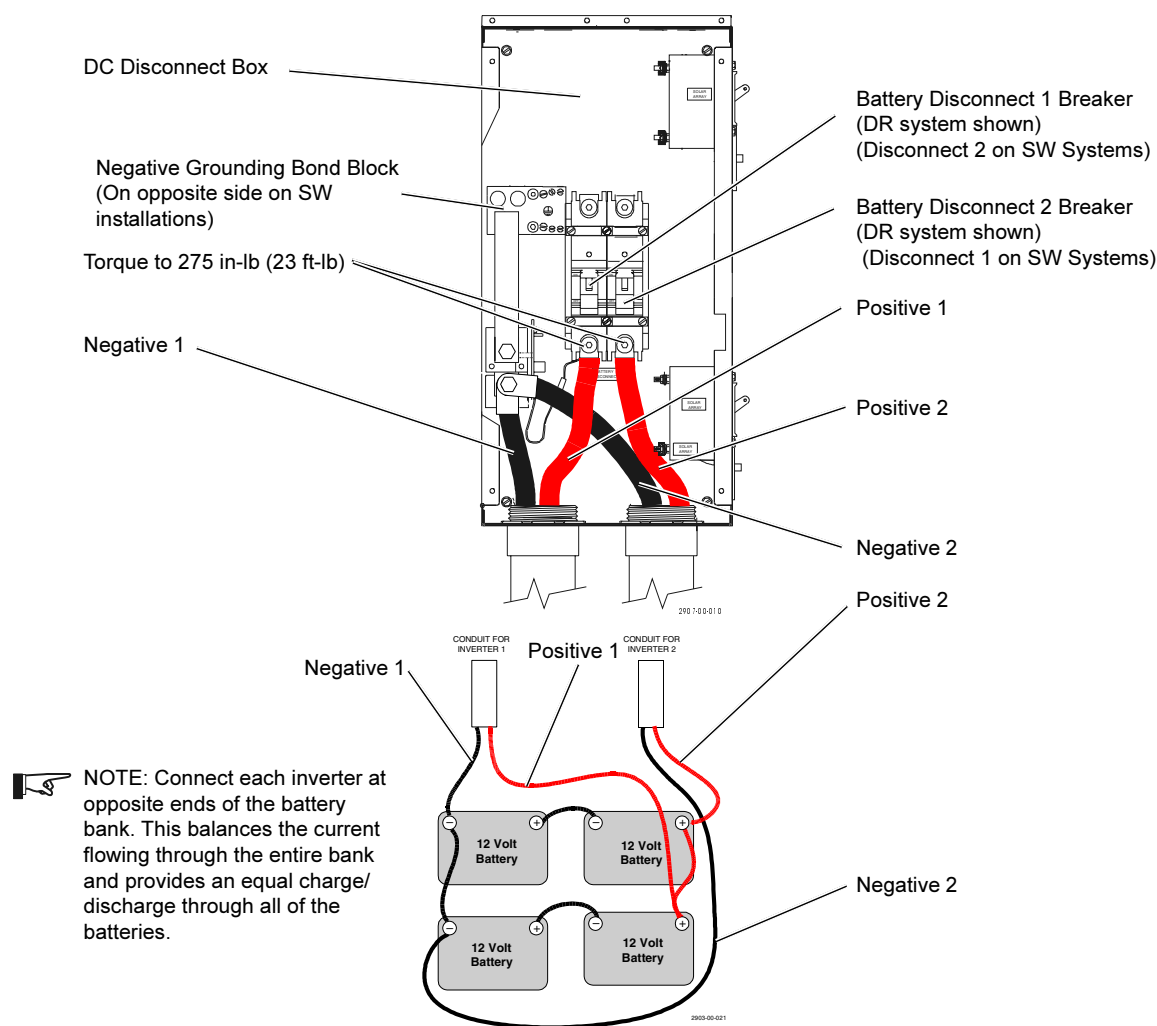

Figure 12
**NOTE:** Use only one battery bank for both inverters. Refer to Figure 12 for an example of a battery hookup.